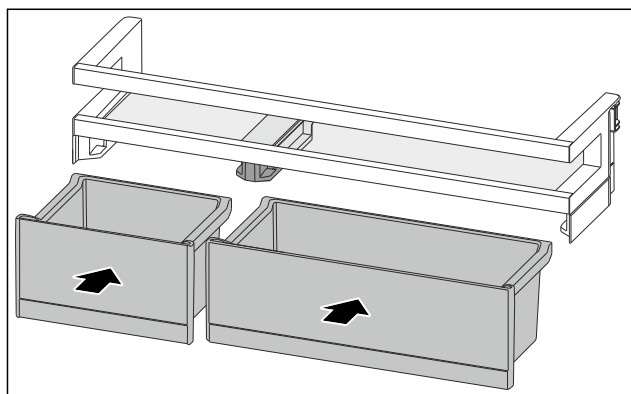

Fig. 120
- Insert the VarioBoxes opposite order. (see Fig. 120)